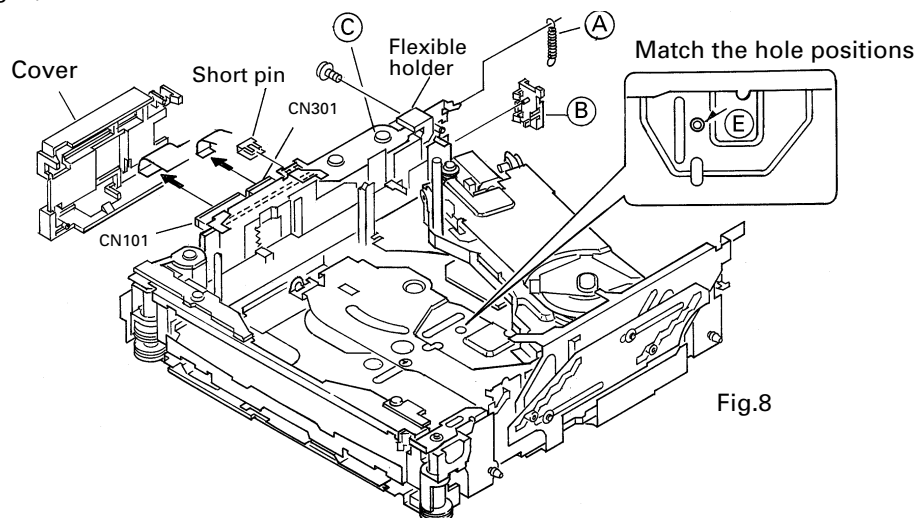

Fig.8
5. Rotate the Cam gear motor until the positions of all holes (E) match, then stop the motor. (The Carriage Mech assy will stop as shown in the Fig.8.)
8. Remove the flexible PCB (C) from the motor. (The flexible PCB (C) has been stuck on the motor with double-sided adhesive tape.)